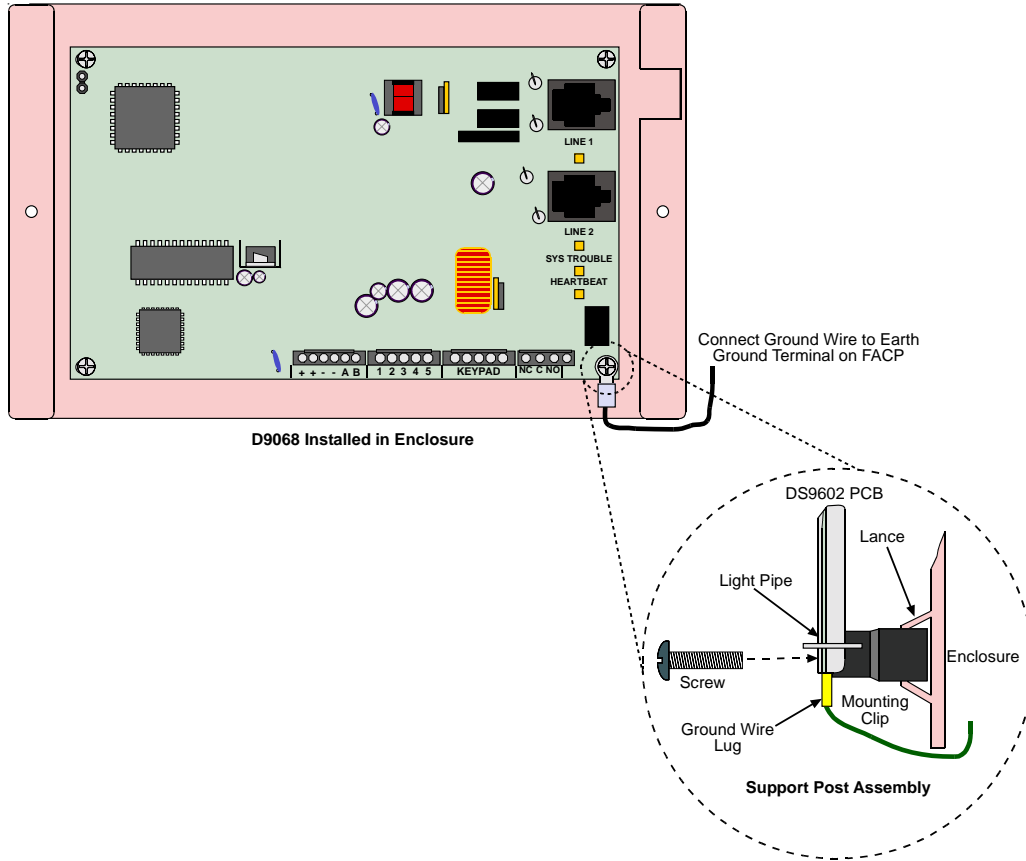

Figure 4: Mounting the D9068 Board
Note: Refer to Figure 4 for ground wire connections.
- 4) Mount the D9068 Board to its case using the supplied mounting screws and mounting clips, and attach the ground wire. See Figure 4.